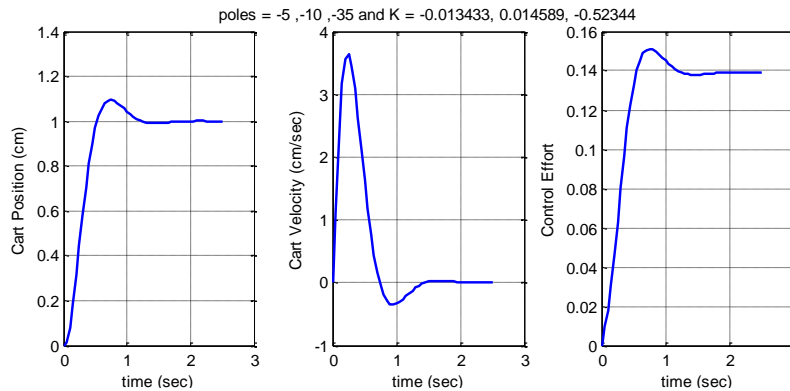

Figure 4: Integral control with a bad system model and better gains
- 10) Systems with these integrators have an interesting characteristic that they correct the error and high frequency noise. Change the poles to -5, -10, and -35 and rerun the system; you should get the results shown in Figure 4, which are much better. Note that the control effort is also much better. **Before you go on, be sure to remove the line `A = A*0.75`!**